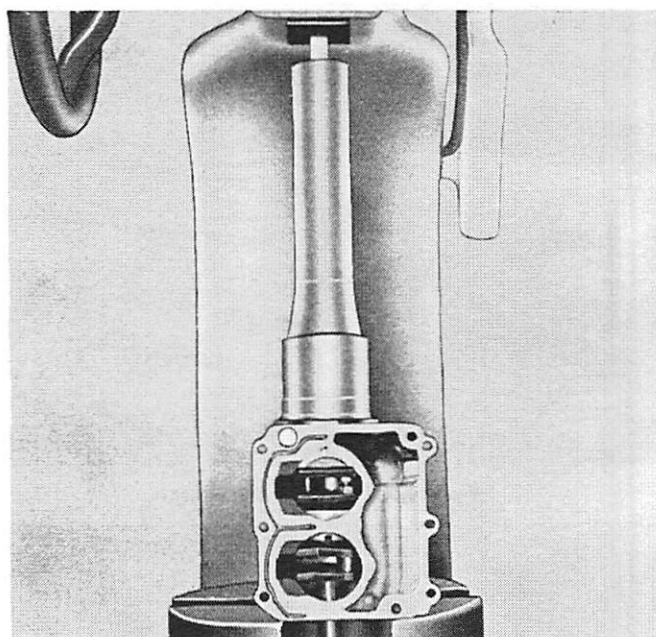

Figure 7. Pressing Out Crankshaft
3. Use Powerhead Stand (91-24282) and place assembly in arbor press upside down to force crankshaft out. (Figure 7) Place "jacks" between counterweights of crankshaft to prevent springing and possible breakage.